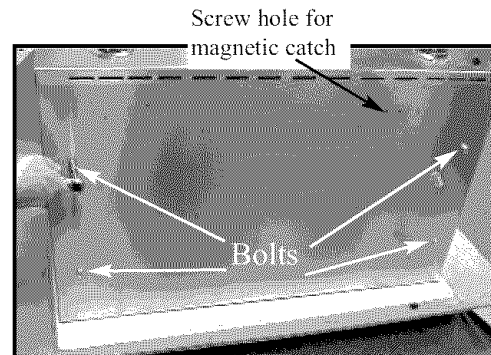

Fig. 5
1. While keeping the Grill on the foam base lean it onto its back. (be sure to hold the hood shut when doing this.) With the Grill on its back, loosen all 4 bolts on the bottom side of the Grill, but do not remove.(See Fig. 5)